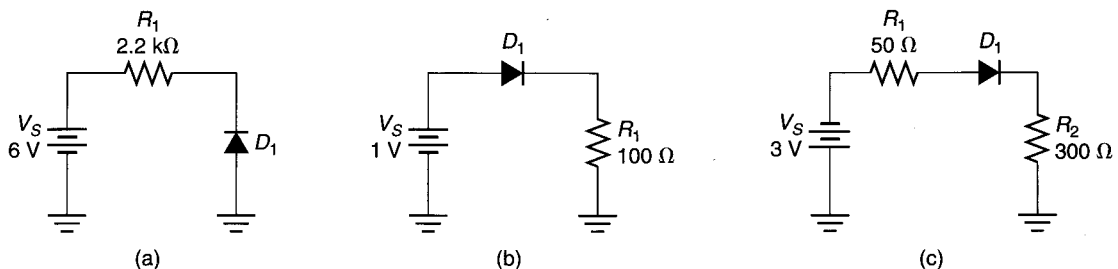

FIGURE 2.44
4. For each of the circuits shown in Figure 2.44, determine the direction (if any) of diode forward current.
6. Using the *ideal diode model*, determine the voltage across each of the diodes shown in Figure 2.44.